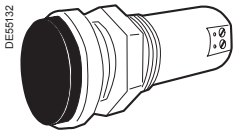

Fig. 8
- an indicator lamp to be screwed in for thin walls  $\leq 6$  mm (fig. 8),